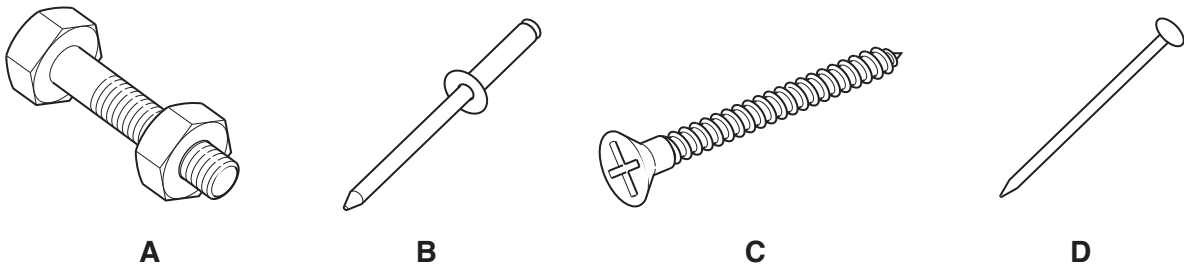

Fig. 3
- 5 Fig. 3 shows four items used to fasten materials together.
Name each of the items **A**, **B**, **C** and **D** shown in Fig. 3.